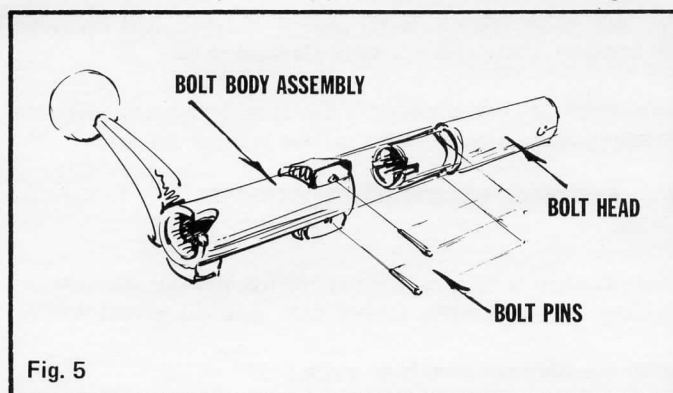

Fig. 5
(With firing pin assembly removed) Drive bolt pin (2) from locking lugs (2) on bolt body assembly. Pull away and disassemble bolt body assembly from bolt head. See Fig.5).